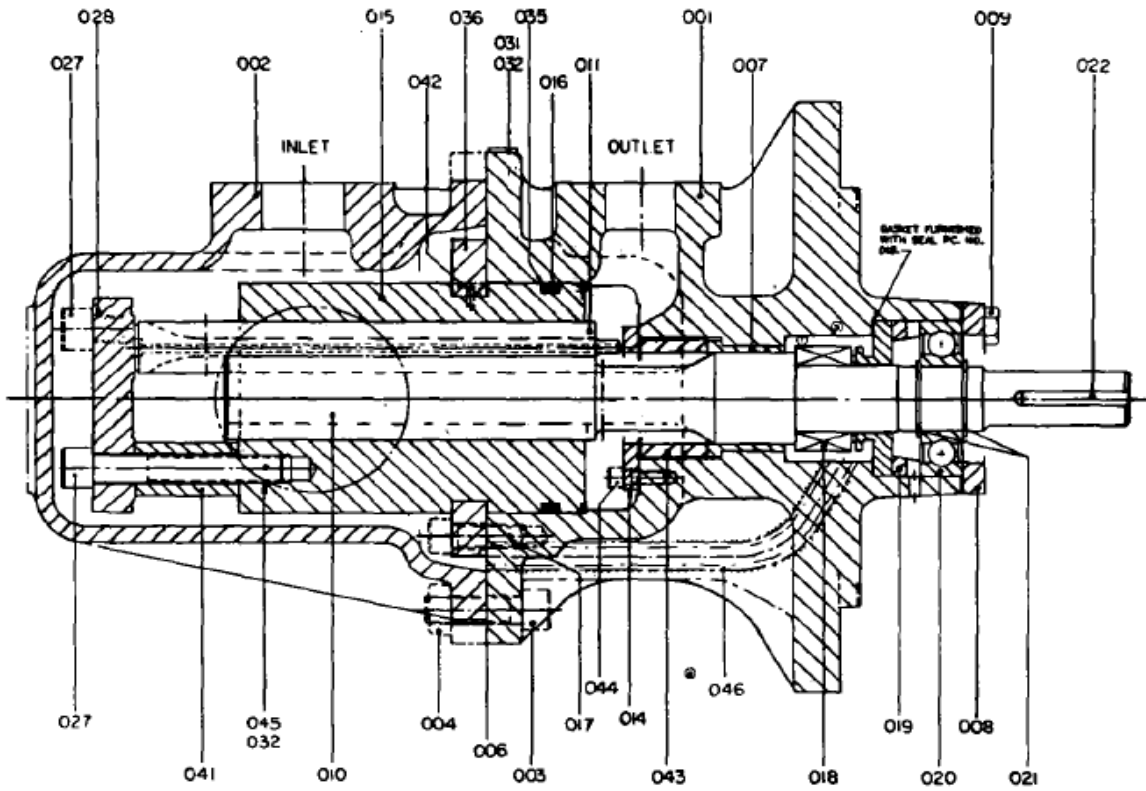

FIGURE 7.
1. Close off suction and discharge piping to pump and disconnect piping. Remove pump from driver, coupling and mounting bracket. Remove coupling hub and key (022).
2. Remove nuts (004), capscrews (003), and inlet head (002). Remove gasket (006, Figures 7, 8, 9, 10, and 11) or O-ring (006, Figures 12, 14 and 15) from cover (001).
3. Remove capscrews (027), plate (028) and spacers (041).
4. Remove idler rotors (011) by unscrewing idler rotors from housing bores.
5. Remove bolts (009) and bearing retainer (008).
6. Slide assembled power rotor (010) from pump. Removal of assembled power rotor includes: (Figures 7, 8, 9, 10, 12, 13 and 14)- Truarc rings (021), ball bearing (020), spacer (019), mechanical seal (018) and spacer (062, Figure 13 only). (Figures 11 and 15)- Truarc rings (021) and ball bearing (020).
7. Remove inboard truarc ring (referencing the pump shaft/keyway as inboard side) from power rotor (010).
8. Using an arbor press, press bearing ½” off shaft in order to access outboard truarc ring (021).
9. Remove outboard truarc ring (021).
15. Remove gasket or O-ring from mechanical seal bore of cover (001).
(Figures 7, 8, 9 and 10) - Gasket furnished with mechanical seal (018).
16. Remove capscrews (017) and slide housing (015) from outlet end of cover (001). Removal of housing (015) also removes clamp rings (036), spring pin (042), O-ring (016) and backup ring (035). Remove O-ring (016), backup ring (035) and clamp rings (036) from housing (015).
17. Remove capscrews (044) and idler stop (014).
18. (Figures 7, 8, 11, 12, and 15) Slide spacer (043) from cover (001).
19. Remove bushing (007) from cover (001).
Prior to assembly of pump, all parts should be cleaned and inspected for nicks and burrs. Replace all worn or damaged parts. Colfax recommends replacing all O-rings, gaskets, mechanical seals and ball bearings when these parts are disturbed from their previously installed positions. Refer to proper assembly drawings, Figures 7 through 15, mechanical seal drawing, List of Materials, Table 3, during assembly. Coat all parts with light lubricating oil to assist in assembly.
NOTE: *Unless noted, assembly procedures apply to all pumps, Figures 7 through 15.*
1. Install bushing (007) in cover (001).
2. (Figures 7, 8, 11, 12 and 15) Install spacer (043) in cover (001).
3. Install idler stop (014) to cover (001) using capscrews (044). Torque capscrews (044) to 10 lbs. ft. (± 2 lbs. ft.).
4. Insert O-ring (016) and backup ring (035) into groove of housing (015).
20. (Figures 7, 8, 9, 10 and 11) Install gasket (006) on cover (001).
21. Install inlet head (002) using capscrews (003) with nuts (004). Torque capscrews (003) to necessary value listed in Table 3.
22. Mount pump to bracket. Install key (022) and coupling hub. Connect driver and piping.